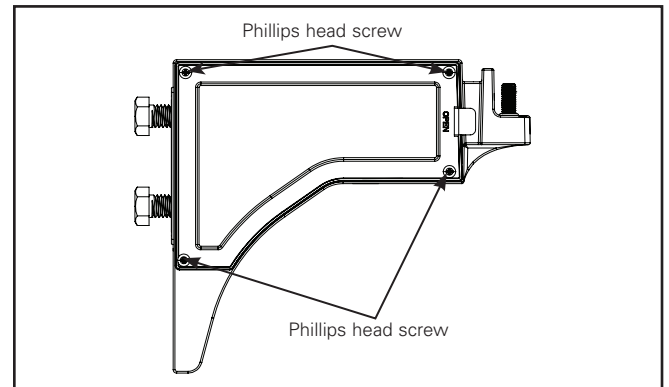

Figure 7.
- Remove the cover plate on the pole mount arm by removing the four Phillips head screws and using the pull tab labeled "open". No need to completely remove the four Phillips head screws, there is a rubber ring on each screw to hold it to the cover plate. Set door aside. (Figure 7.)
11. Reinstall cover plate on to pole mount arm via four Phillips head screws (Figure 7.) Torque to 10 in-lbs.